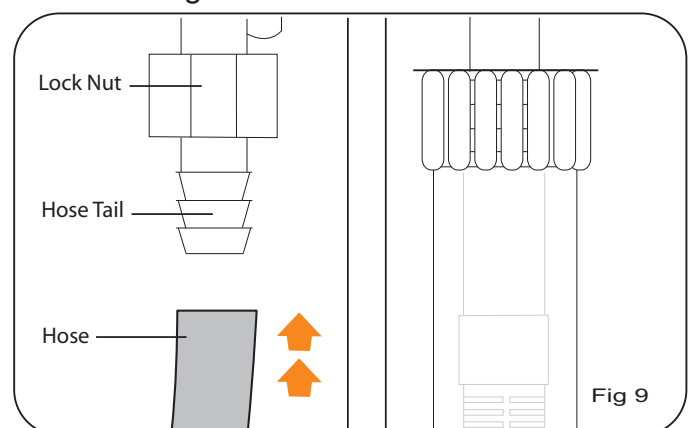

Fig 9
16. Force the hose on the Hose Tail. You should be able to get it on to but up to the bottom of the Lock Nut. Fig 9